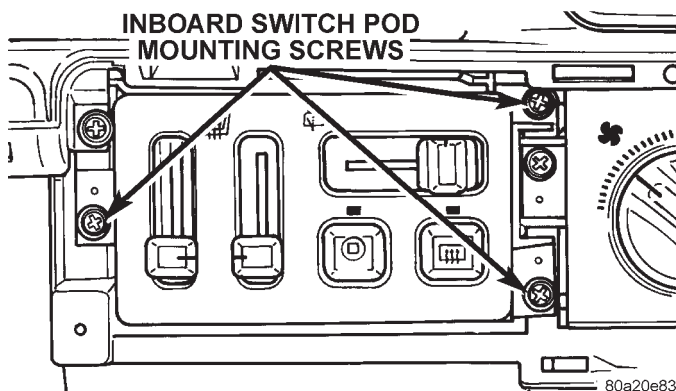

Fig. 1 Inboard Switch Pod Remove/Install
(1) Disconnect and isolate the battery negative cable.
(2) Using a trim stick or other suitable wide flat-bladed tool, pry gently around the edges of the inboard switch pod bezel and remove the bezel.
(3) Remove the three screws that secure the inboard switch pod to the instrument panel (Fig. 1).